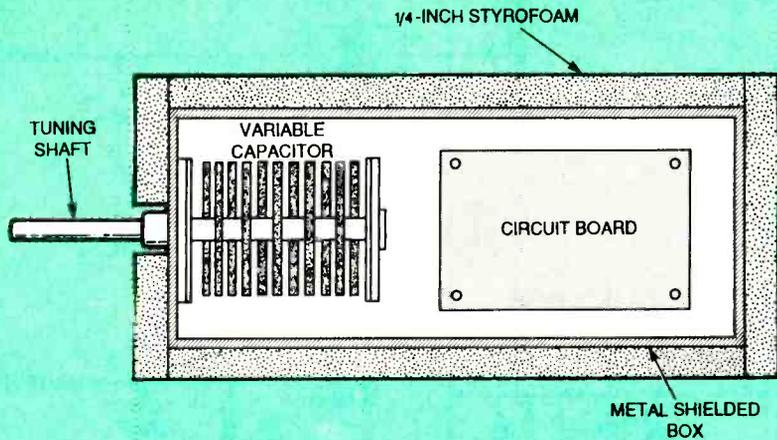

Fig. 1. A VFO should be thermally isolated by using insulation around the shielded enclosure housing the oscillator circuitry.
over all surfaces of the VFO housing (see Fig. 1). In those days, the "Styrofoam job" was nearly always a mess because only salvaged coffee cups and 3/4-inch builder's Styrofoam were easily available.
**Starting From Scratch.** Figure 1 shows many of the schematic symbols that you are likely to encounter in an electronics diagram (they are not the only ones, but merely the more common ones). The symbols shown are standard for this publication.
While different members of a given family may perform a particular function, they often do it in slightly different ways. To illustrate, take the switch family: compare the toggle switches to the relay switches. If you were to compare the action of a single-pole, single-throw (SPST) toggle switch to a reed relay, you'd find that they perform the same function: the former manually and the latter electrically. And if you compare the operation of a single-pole double-throw (SPDT) toggle switch to that of the relay pictured in the switch section of Fig. 1, you'd find that they both perform the same function (again the former, manually and the latter electrically).
*Fig. 1. The schematic symbols shown in this chart are standard for this publication, and make up many of the symbols that you are likely to encounter in an electronic diagram. They are not the only ones, but merely the more common ones.*
**Optoelectronics.** This family of components is a rather diverse one, which includes optocouplers, light-activated diodes and transistors, light-emitting diodes (LED's), and seven-segment displays. There are others, such as the light-activated SCR (LASCR), which is shown in Fig. 1 under the thyristor heading.
And that's not all there is to this family: There are a few other devices (some shown in Fig. 1 and some not) that can be used as solid-state switches, in variable power-control circuits, and for low-voltage control of high-power circuits.